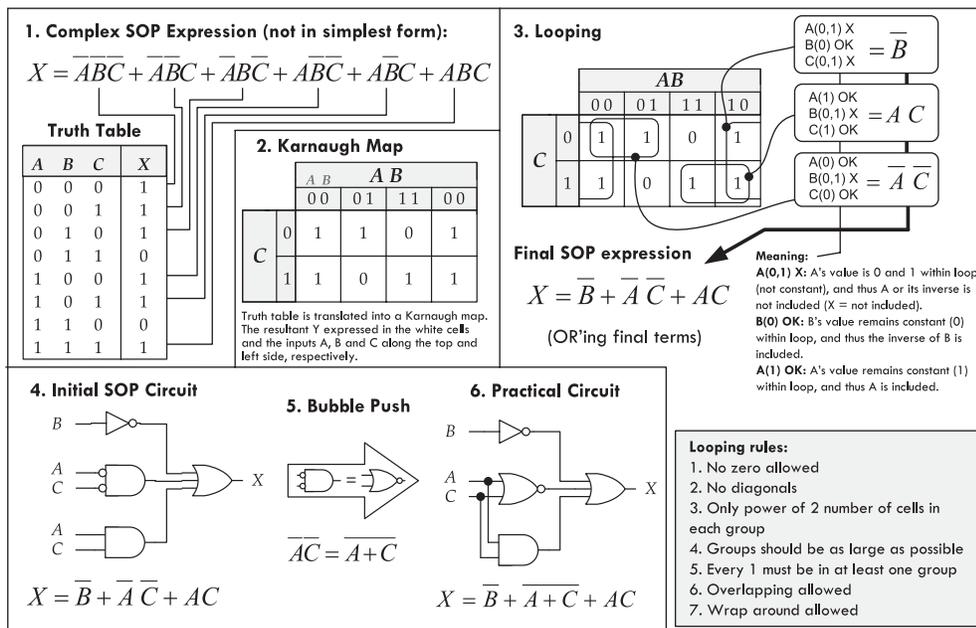

FIGURE 12.27
1. Select a desired truth table. Let's choose the one shown in Fig. 12.27. (If you have a Boolean expression, transform it into an SOP expression and use the SOP expression to create the truth table.)
- Translate the truth table into a Karnaugh map. A Karnaugh map is similar to a truth table but has its variables represented along two axes. Translating the truth table into a Karnaugh map reduces the number of 1s and 0s needed to present the information. Figure 12.27 shows how the translation is carried out.
- Identify the variable that remain constant within each loop, and write out an SOP equation by OR'ing these variables together. Here, constant means that a variable and its inverse are not present together within the loop. For example, in Figure 12.27 section 3, the loop that contains four 1s is reduced to \bar{B} because $B = 0$ throughout the loop, while A and B aren't constant because they take on values of 0 and 1 throughout that loop. (If a variable is constant 0, the final expression is the inverse of that variable; if the variable is constant 1 throughout the loop, the final expression is the non-inverted variable.)
- The SOP expression you end up with is the simplest possible expression. With it, you can create your logic circuit. You may need to apply some bubble pushing to make the final circuit practical, as shown in Fig. 12.27.